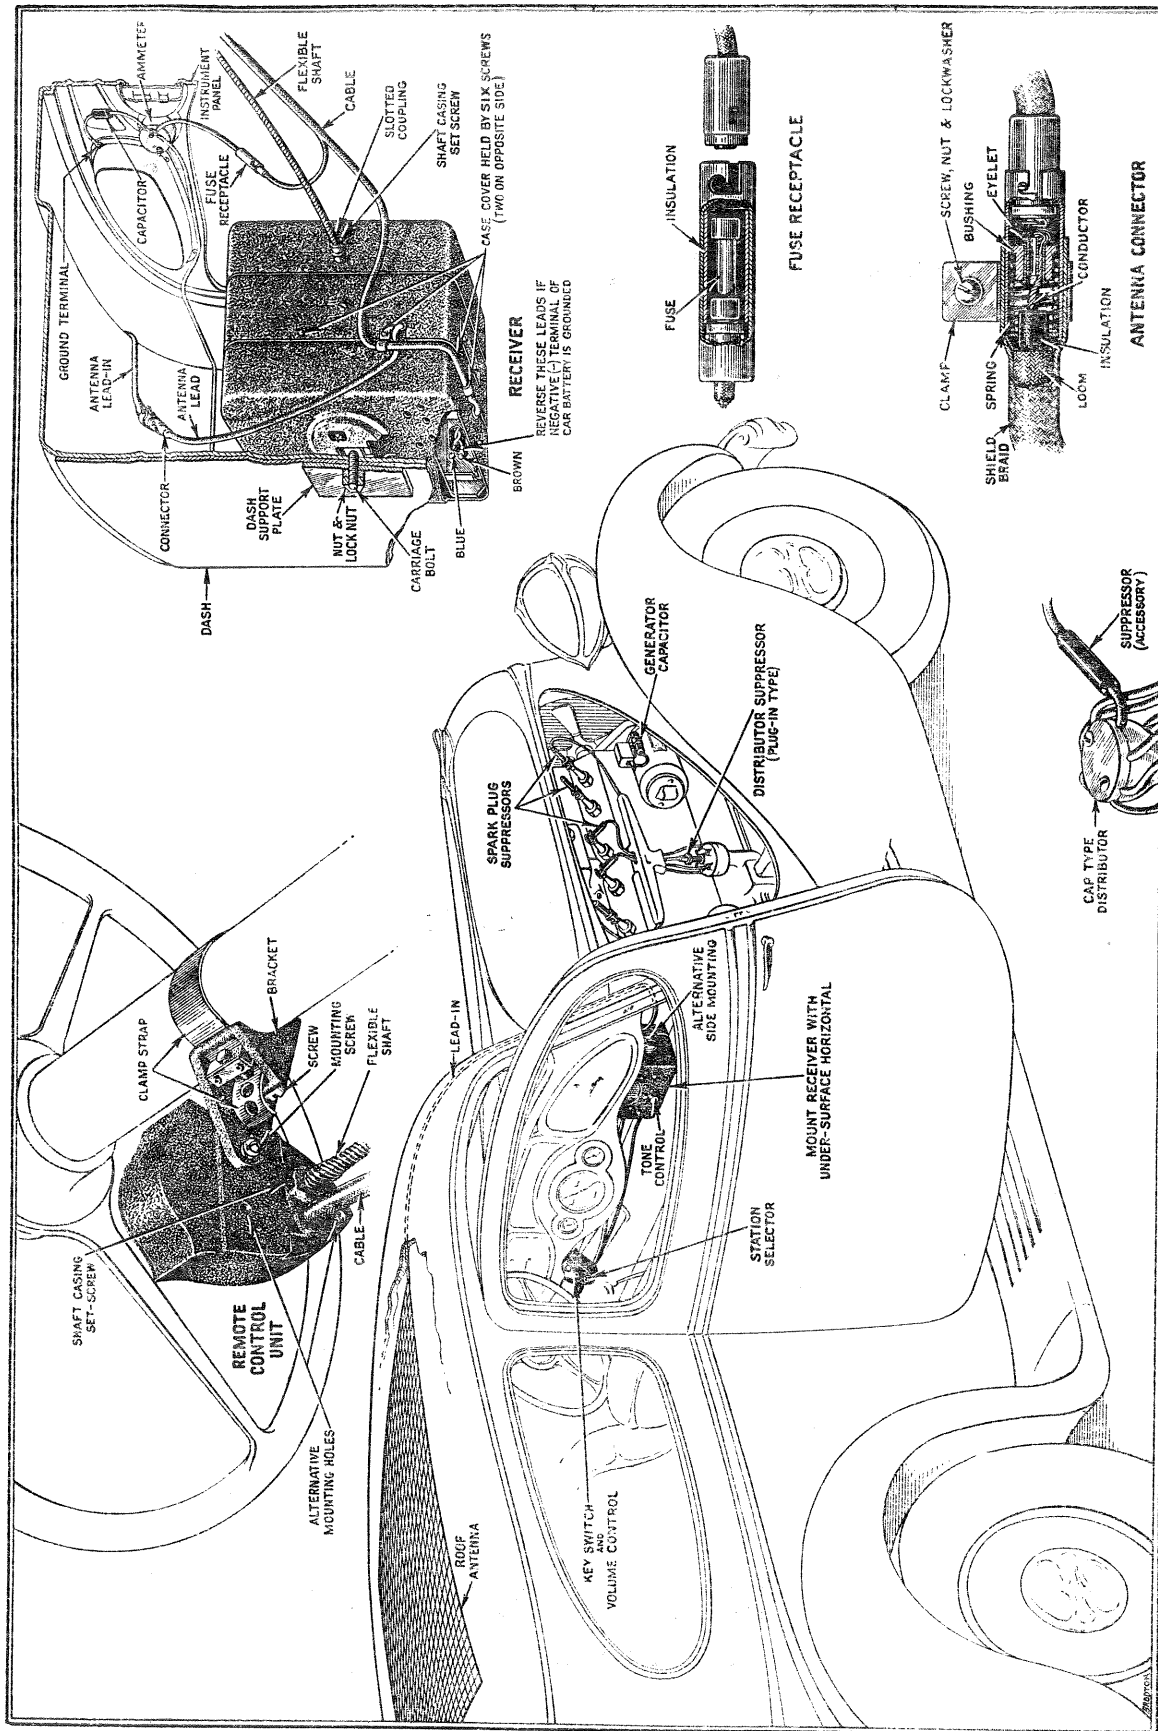

Figure 1
2. **CHECK POLARITY OF AUTOMOBILE STORAGE BATTERY SUPPLY.** If the negative (—) side is grounded to car frame, remove case cover and make changes to chassis connections shown in Figure 1. *Do not disturb these connections if positive (+) side is grounded.* (See details under "Mounting of Units"—page 5.) Replace case cover.
3. Determine most satisfactory mounting position (see details under "Location of Units"—page 4), spot mounting-bolt location and drill $\frac{1}{2}$ " diameter hole. Insert bolt through dash and assemble support plate and nuts on engine side. Hang receiver over bolt head and tighten nuts. (See Figure 1 and details under "Mounting of Units"—page 5.)
4. Attach remote control unit to steering column by means of mounting bracket and strap. (See Figure 1 and details under "Mounting of Units"—page 5.)
5. Assemble flexible shaft to receiver and remote control unit. (See Figure 1 and details under "Mounting of Units"—page 6.) *Make sure that the set-screws are tightened firmly against both ends of shaft casing.*
7. Connect terminal at end of *black* lead from cable to binding-post of automobile ammeter (see Figure 1 and details under "Connections"—page 7). The ignition by-pass capacitor (equipped with two leads) should be installed at this time. (See Figure 1 and paragraph 4 under "Suppression of Ignition Interference"—page 7.)
8. Install spark-plug and distributor suppressors; also generator by-pass capacitor (see Figure 1 and paragraphs 1, 2 and 3 under "Suppression of Ignition Interference"—page 7).
Receiver and Remote Control Units—The arrangement of units shown in Figure 1 is recommended and will be found applicable to the majority of automobiles. Consideration should be given to the possibility of interference of the receiver with other equipment beneath the instrument panel or of the mounting bolt with apparatus on the engine side of the dash. By placing the receiver unit toward the right-hand side of the dash, the flexible shaft will be of correct length as furnished in practically all cases. This position, however, may be considered impractical because of its universal preference for heating devices, necessitating installation of the receiver unit either near the center or at the extreme left-hand side of the dash and the use of a shorter flexible shaft. In such cases, the shaft may be either short-
Details of mounting the various units are shown in Figure 1. The following procedures are recommended:
Receiver Unit—It is necessary first to determine the electrical polarity of the storage battery supply. This may be done most conveniently by making an examination of the battery connections and ascertaining which terminal is grounded (that is, connected to the frame of the car). The positive terminal is usually marked (+) and tends to form corrosion far more rapidly than the negative (—). If the positive terminal is grounded, no change in the electrical connections of the receiver unit will be required. However, if the opposite is true, the cover of the receiver unit case (held in place by six screws) must be removed and the two leads (equipped with spade terminals) located beneath the radio chassis as shown in Figure 1 must be reversed.
Remote Control Unit—In attaching the remote control unit to the steering column of the car, it will be advisable first to examine the detailed view (in Figure 1) showing the assembly of its mounting bracket. Four small holes are contained in the associated flexible strap at distances proper for use with steering columns of the most common diameters ($1\frac{1}{2}$, $1\frac{5}{8}$, $1\frac{3}{4}$, $1\frac{7}{8}$ inches), but the strap length will be found sufficient to permit the insertion of an additional hole if necessary to accommodate a 2 inch column. The proper hole may be determined by wrapping the clamp strap tightly around the column, inserting the machine screw furnished through that hole found to be nearest in alignment with the tapped hole in the clamp bracket. Three tapped holes are provided in the back of the remote control unit, permitting support of that unit either at the right- or left-hand side or above the steering column.
Refer to Figure 1 and make connections as follows:
Refer to the detailed view of the antenna connector shown in Figure 1 and proceed to attach the lead-in wire (if shielded) as follows: First, cut the end of the lead-in so that the internal insulated wire and loom (if present) are flush with the end of the shield covering and push back the shield approximately $1\frac{1}{2}$ inches. Cut the loom to the end of the
1. Disconnect all wires from the spark plugs. Fasten one spark plug suppressor to the top of each plug and re-attach the wires to the free ends of the suppressors. These suppressors may be mounted either in line with or at right angles to the plugs (as shown in Figure 1) in order to avoid interference with metallic parts grounded to the engine or frame.